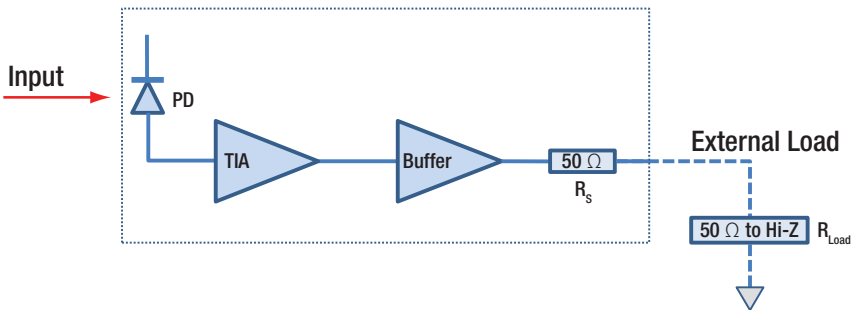

Figure 2. Block Diagram of the PDA015C Amplified Si Photodetector
Thorlabs' PDA015C is ideal for measuring both modulated/pulsed and CW light sources. As is shown in Figure 2, the PDA015C includes a reverse-biased PIN photodiode (PD) mated to a fixed gain transimpedance amplifier (TIA) followed by a buffer amplifier, and packaged in a rugged housing. The photodiode generates a current in response to the optical input which is then converted to a voltage and amplified by the TIA. The Buffer Amplifier adds yet another level of gain. Note that the output is passed through a 50 Ω series resistor before reaching the output connector. The user can apply either a 50 Ω or high-impedance external load depending on the situation.